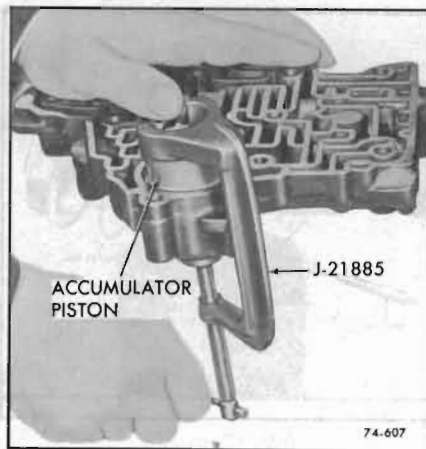

Figure 74-607
3. Install special Tool J-21885, on accumulator piston and remove retaining "E" ring. See Figure 74-607.